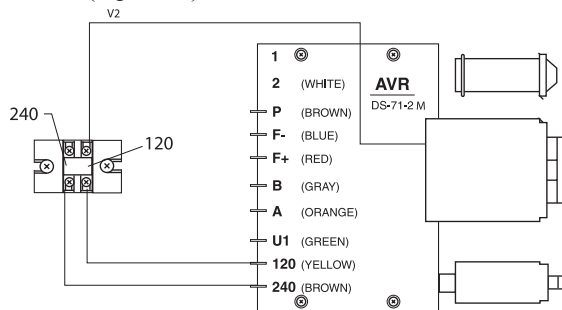

Figure 20: Control Terminal Board, 120 Volt Output
- a. 120 volt output can be selected by connecting the terminals of the control terminal board to 120 (Figure 20).